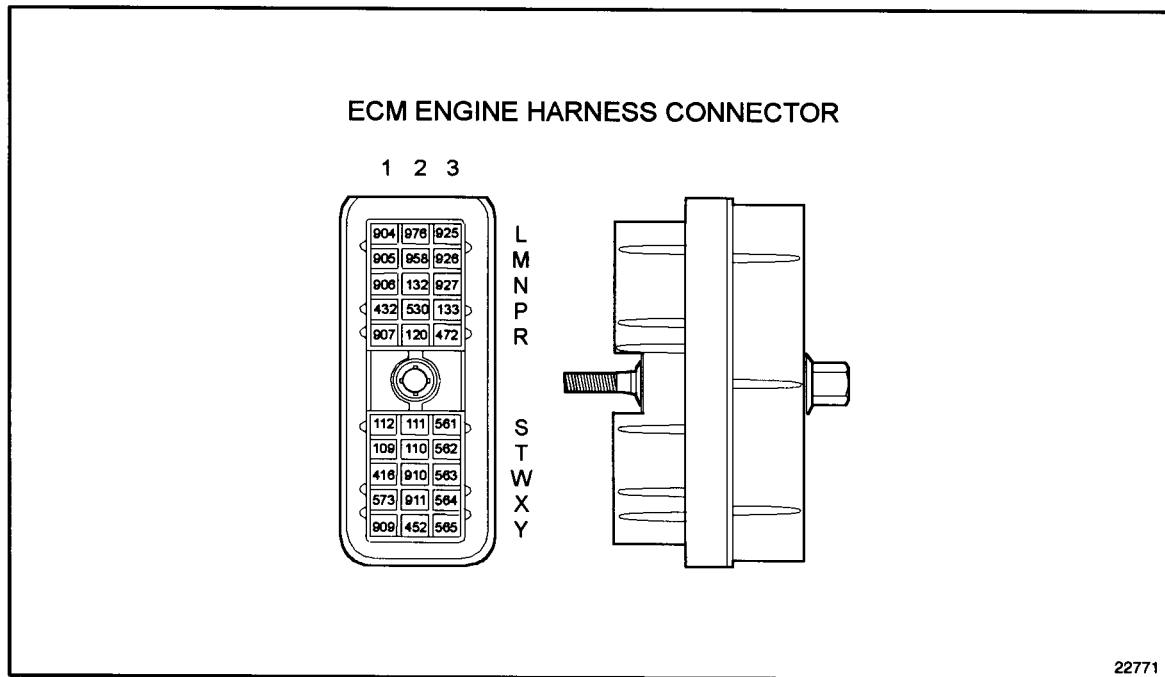

Figure 15-7 ECM Engine Harness Connector
1. Check terminals at the ECM engine harness connector (both ECM and harness side) for damage: bent, corroded and unseated pins or sockets. Check terminals MR2 and Y2 of the ECM connector. See Figure 15-7.